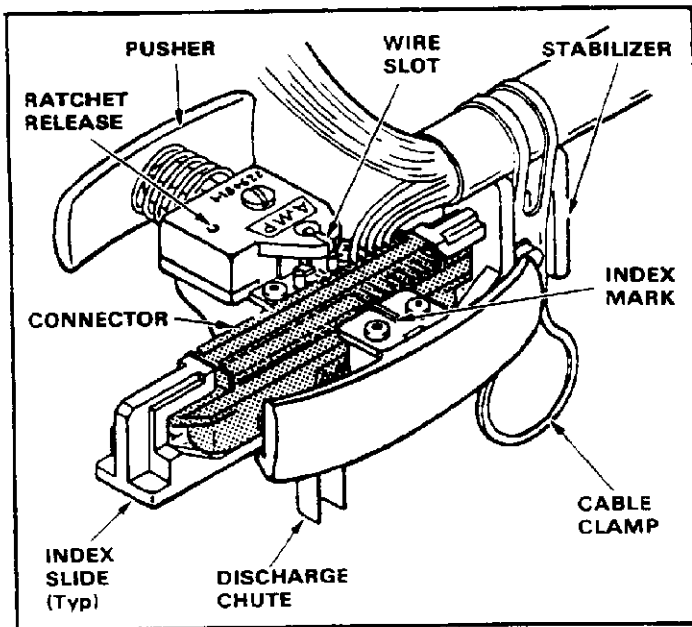

Fig. 2
3. Position the connector in the index slide as shown in Figure 2. If wire color coding is used, make sure the connector is oriented so the color codes will match properly with mating connector.
4. Attach the index slide to the cable with the cable clamp as shown in Figure 2. The cable sheathing must extend approximately 1/2 in. beyond the stabilizer.